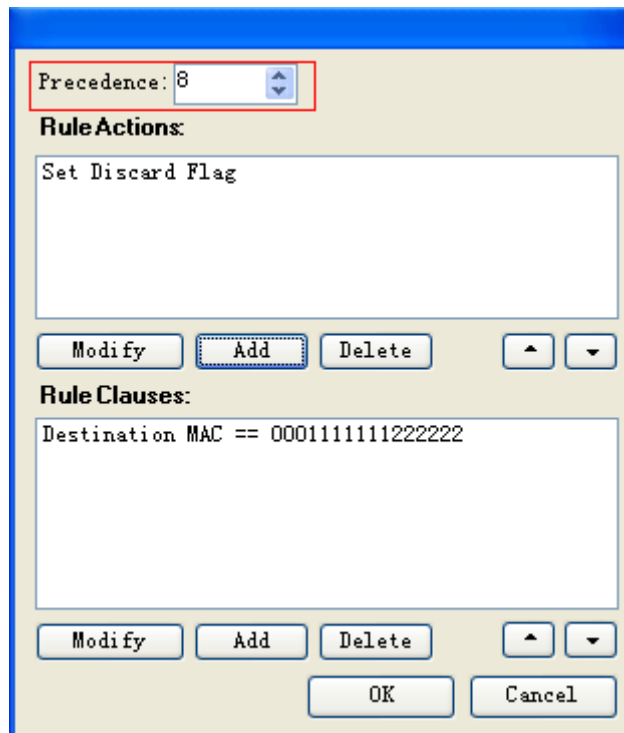

Figure 8-5 Edit Window
Select to create rules based on a port or link on the top window of the OLT rule; click Add at the bottom of the window to display the edit window shown in the Figure 8-5.
- 1) Precedence sets the precedence of rules which is set in the red area of the Figure 8-5;